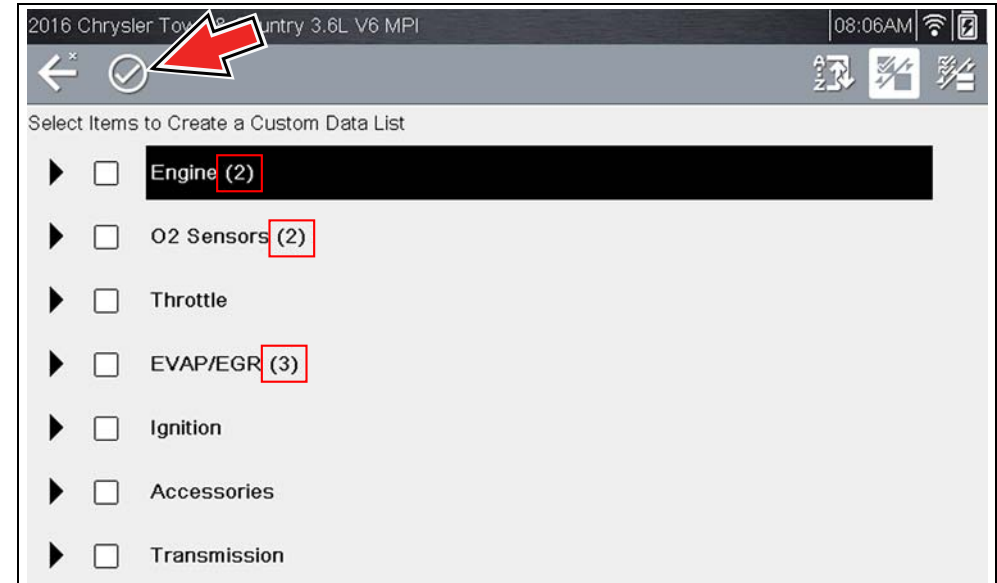

Figure 6-20
3. Once you have selected all the PIDs you need (Figure 6-20), to view the custom list, select the **Accept** icon (Figure 6-20).